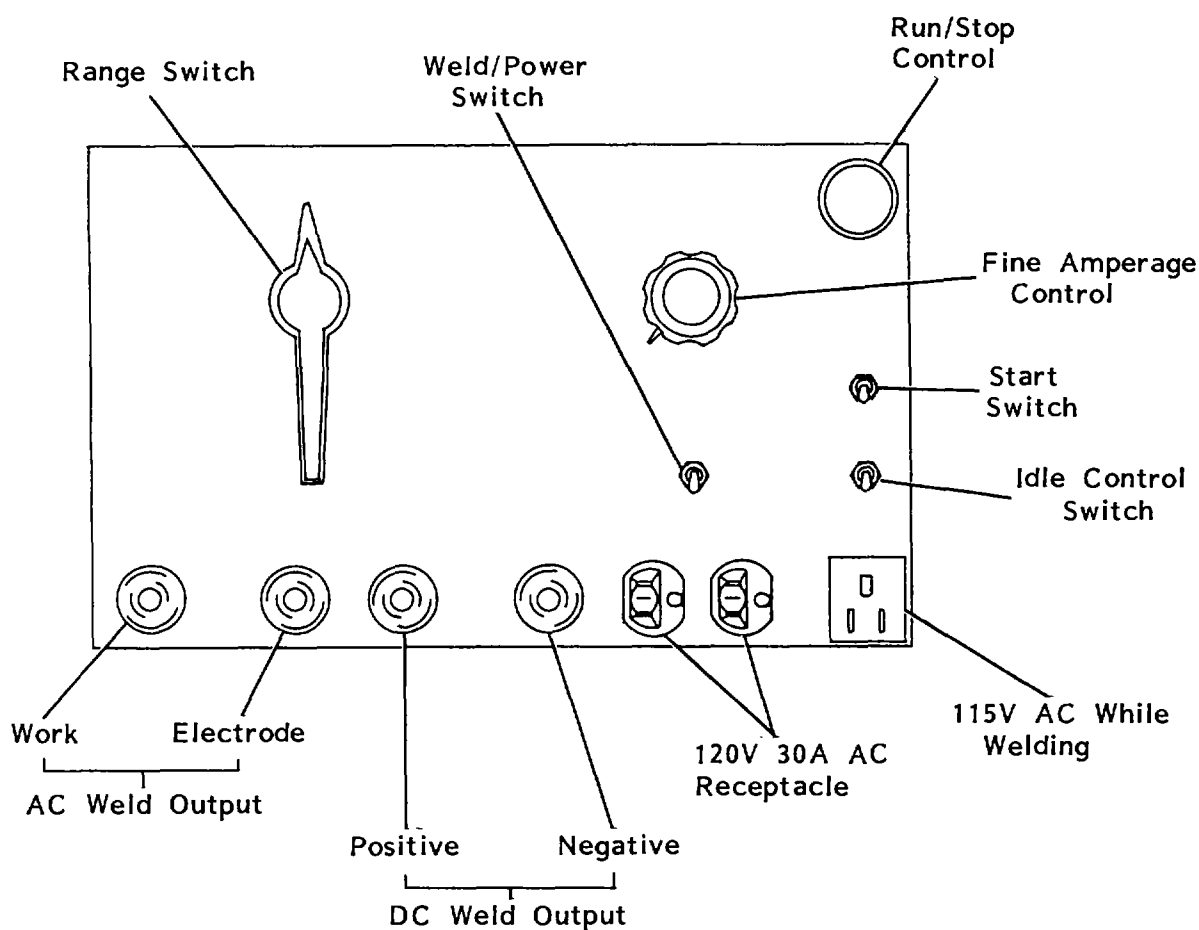

Figure 2-32. Welder/Generator Control Panel
- (1) Starting Engine. See Figure 2-32.
(2) Stopping Engine. (See figure 2-32.)
(3) Shielded Metal-Arc Welding. (See figure 2-32.)**WARNING**
- (h) Place weld/power switch in POWER position. See Figure 2-32.